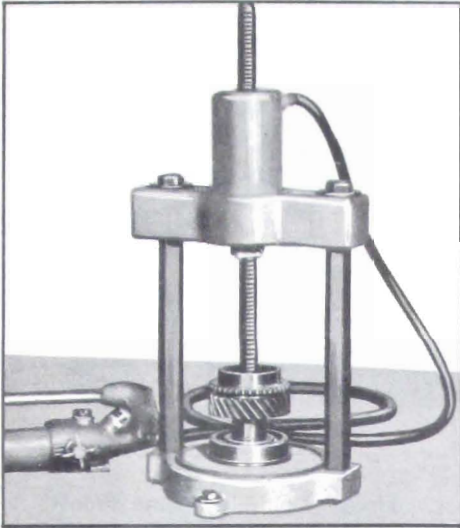

Figure 4-38—Installing Main Drive Gear Bearing
countergear, 20 rollers, two .050" spacers, 20 more rollers, and another .050" spacer. (See Figure 4-38).
3. Press bearing onto main drive gear (snap ring groove to front), using J-5746 (Figure 4-38). Be sure bearing fully seats against shoulder on gear.